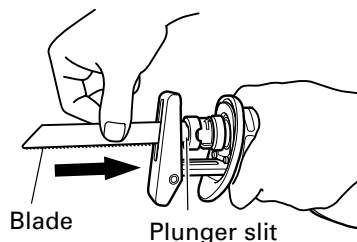
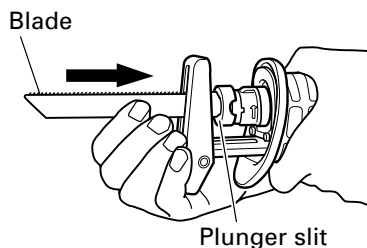

Fig. 8
Fig. 9
- (3) Insert the saw blade all the way into the small slit of the plunger tip. You can mount this blade either in the upward or downward direction. (Fig. 8, Fig. 9)